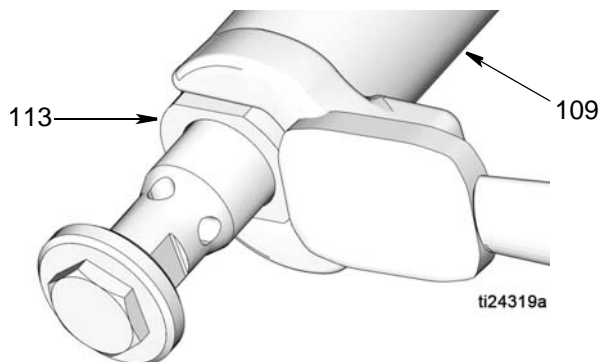

FIG. 27
3. Install upper ball (106), retaining washer (103) and seal (104), with lips facing up, in extension rod (107). Screw piston (102) into extension rod (107). Torque the piston to the extension rod to 25-30 ft-lb (34-41 N.m).
4. Install lower ball (106) into end of shovel rod (108). Screw the shovel rod (108) to piston (102). torque the shovel rod to the piston to 25-30 ft-lb (34-41 N.m).
5. Install bearing (111) and seal (112) with lips facing up, in pump cylinder (109). Screw retainer seal (113) into pump cylinder (109).
6. Screw together pump cylinder (109) and extension tube (114). Use a 7/8 inch crow foot wrench on retainer seal (113). torque to 45-55 ft-lb (61-75 N.m) (FIG. 27).
- Apply thread lubricant to spacer tube (114) and thread into pump adapter (8). Use a 7/8 inch crow foot wrench on retainer seal (113). torque to 45-55 ft-lb (61-75 N.m) (FIG. 27).